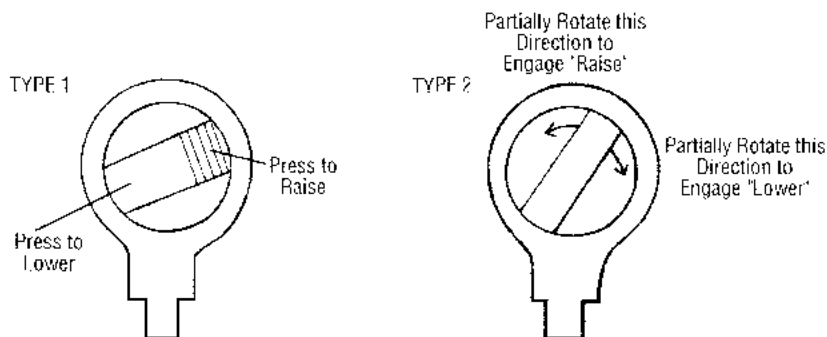

Figure 4-9. Set Ratchet Drive Directional Control
2. Set the ratchet drive directional control for the type of ratchet on your table (see Figure 4-9):